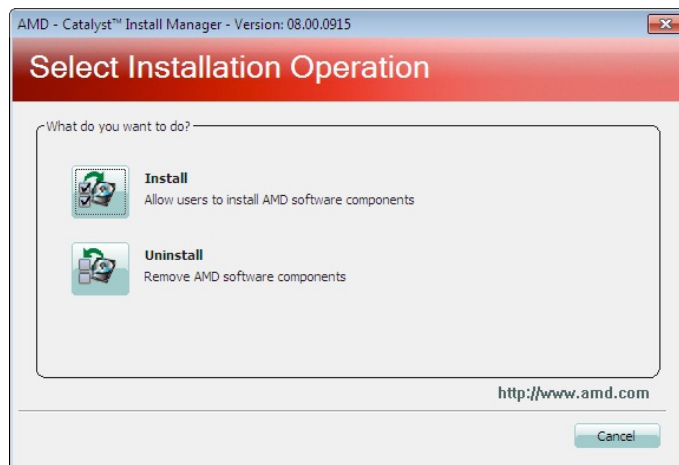

Figure 6-2: Select Installation Operation Screen
Step 5: Click **Install** (**Figure 6-2**).